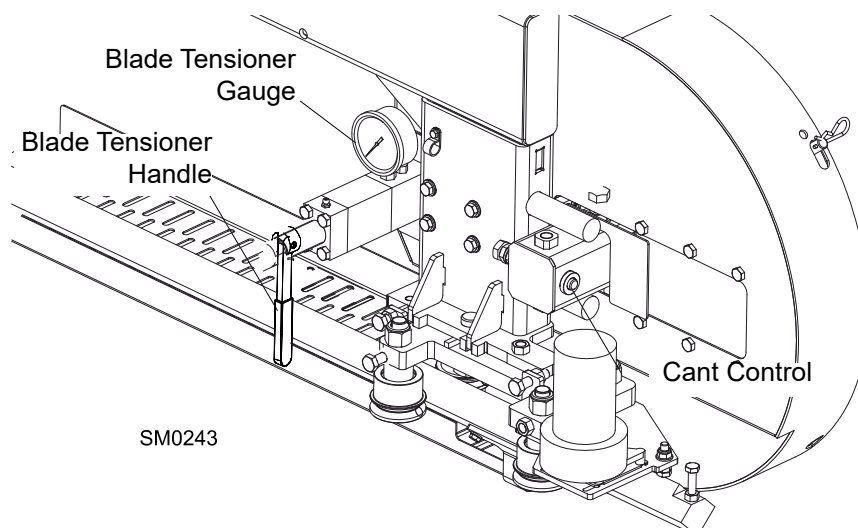

FIG. 2-18
See Figure 2-18. Tension the blade by turning the hydraulic tensioning handle clockwise until the tension gauge indicates the recommended tension.
5. Use the cant adjustment bolt, shown in **Figure 2-18**, to adjust where the blade travels on the blade wheels.